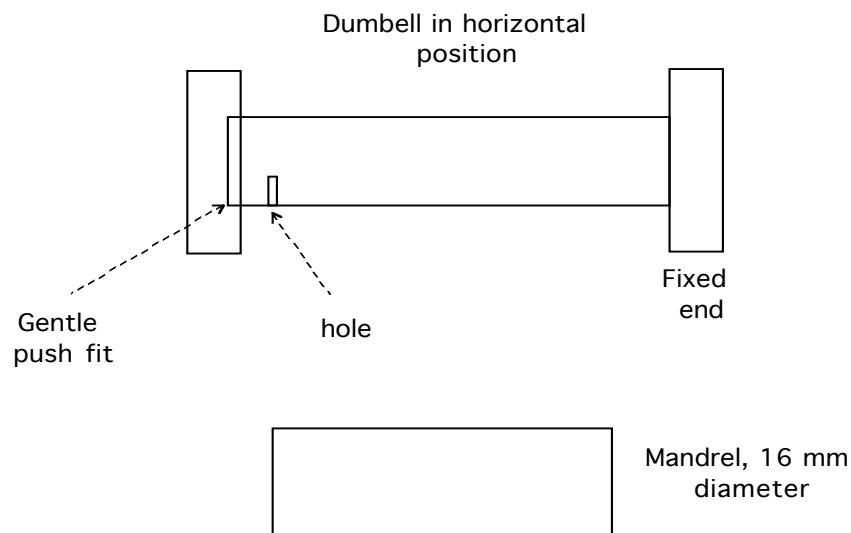

Fig.5: The creep test equipment
The main equipment needed is the "dumbbell" illustrated in Fig.5. You are provided with two samples of 60/40 solder, with two different diameters (0.71 and 1.22 mm). Wind each of these into a tight-fitting coil around the mandrel provided, but do not use excessive force during this operation. Begin the experiment using the coil made from the thinner solder and then repeat all the measurements using the other, thicker, solder wire.
1. Remove the cover of the dumbbell, and place one coil onto the central section. Taking care to keep the dumbbell in a horizontal position, replace the cover and thread the end of the wire nearest to it through the hole in the central section (Fig.5) so that the position of the end of the coil is secured. Keep the dumbbell in a horizontal position until you are ready to make the measurements described below. The coil does not creep whilst in a horizontal position, and the elastic component of the strain is also removed.